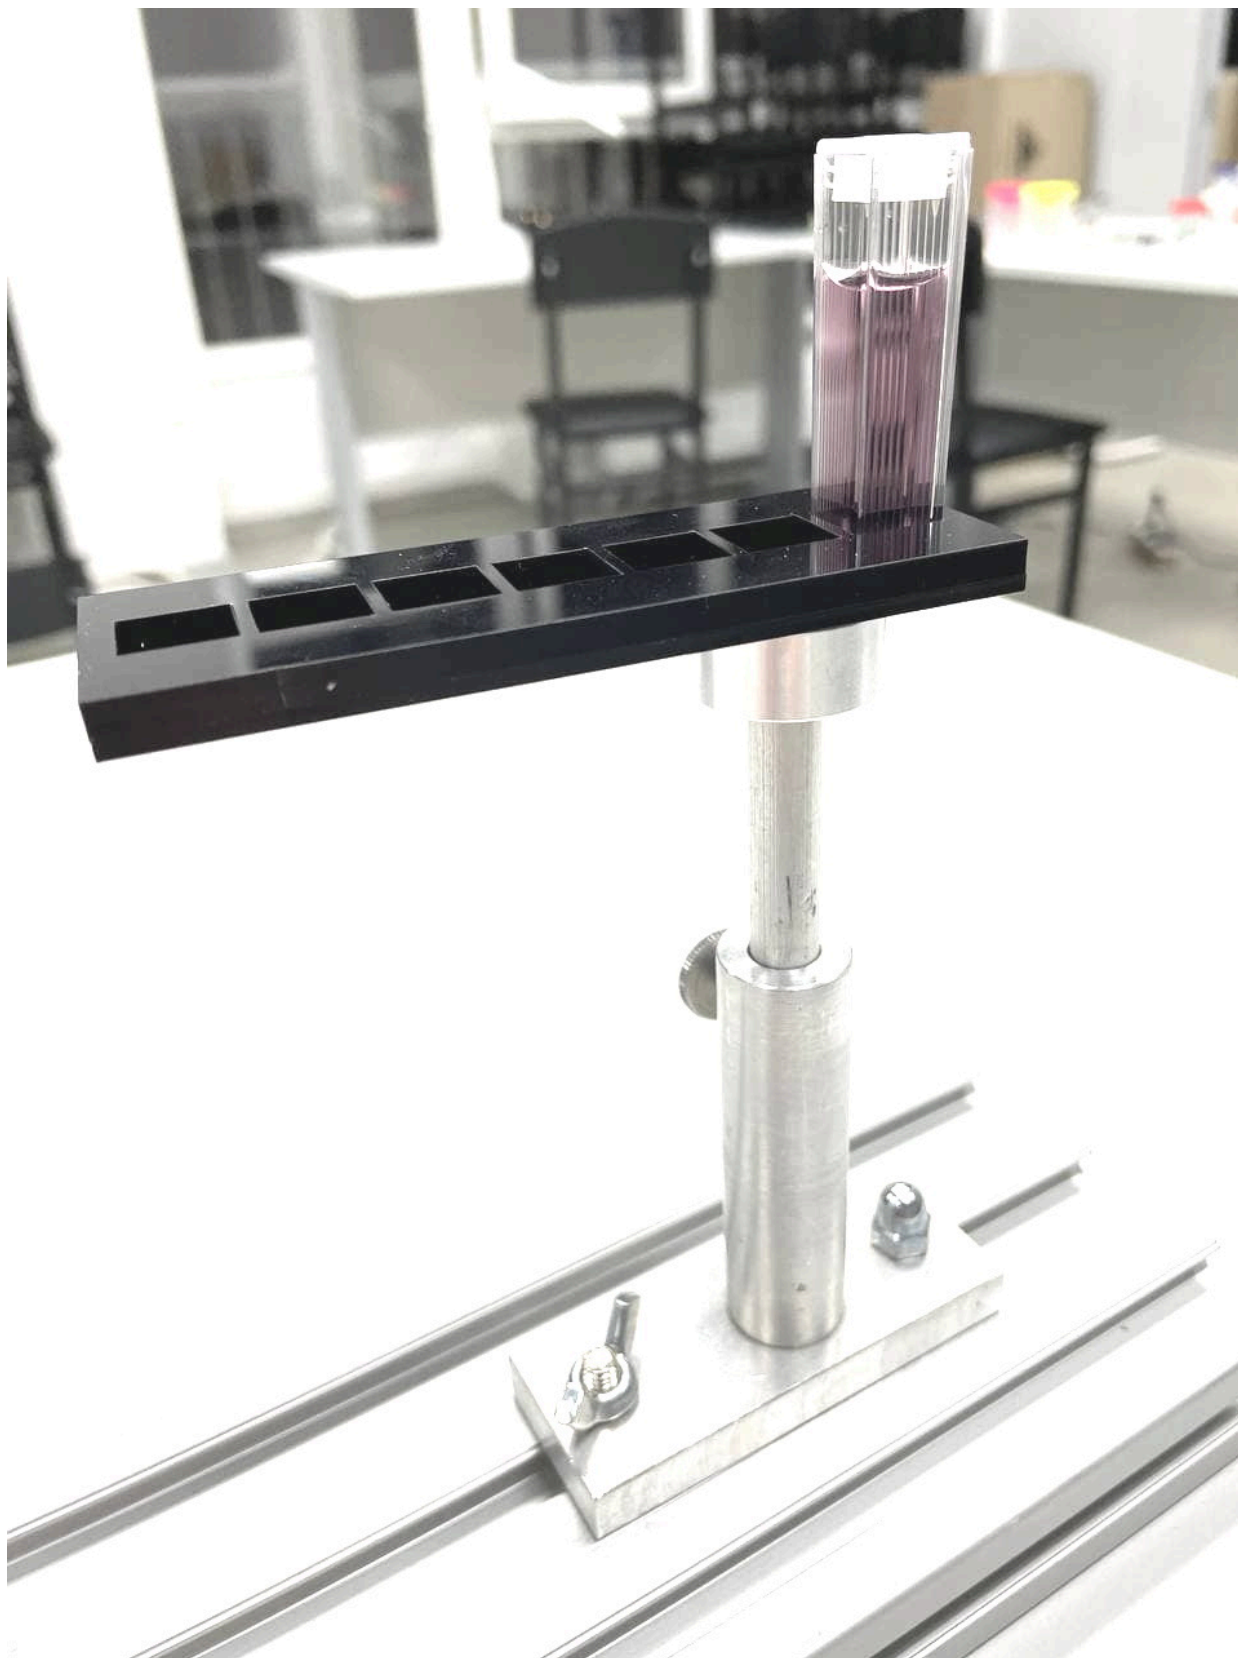

Fig. 7.
For this part of the work you will need solutions of aniline orange and copper sulfate (S2). They will need to be poured into cuvettes (13) using a pipette (12). If you need to pipette another solution, rinse it with water before doing so (10). Cover the cuvettes with lids to prevent liquid from spilling. For spectroscopic examination of solutions, insert the cuvette(s) into the holder (14) and attach to the magnetic holder (4) in the rack (2) (Fig. 7). If there is little solution in the cuvette or the source light affects the measurements, consider creating limiting diaphragms from cardboard (19). The cuvettes can also be washed. Drain dirty water into container (9). Similar steps must be performed in parts D and E.